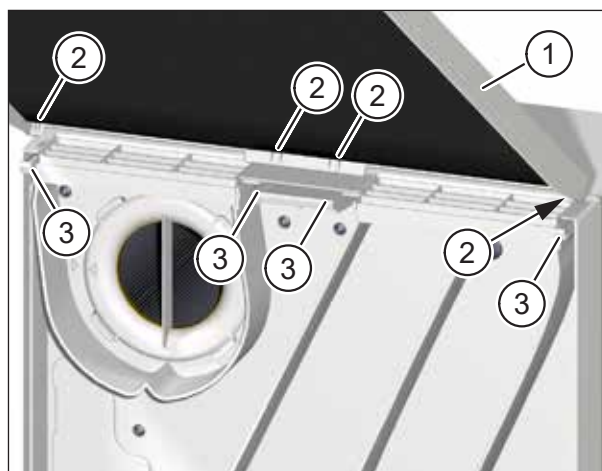

Fig. 24: Attaching the unit cover to the ventilation unit
- ▶ Hold the cover (item 1 in Fig. 24) of the ventilation unit with both hands and tilt the top edge of the cover towards the ventilation unit.
- ▶ Insert the tabs (item 2 in Fig. 24) of the unit cover into the retainers (item 3 in Fig. 24) on the top of the ventilation unit.